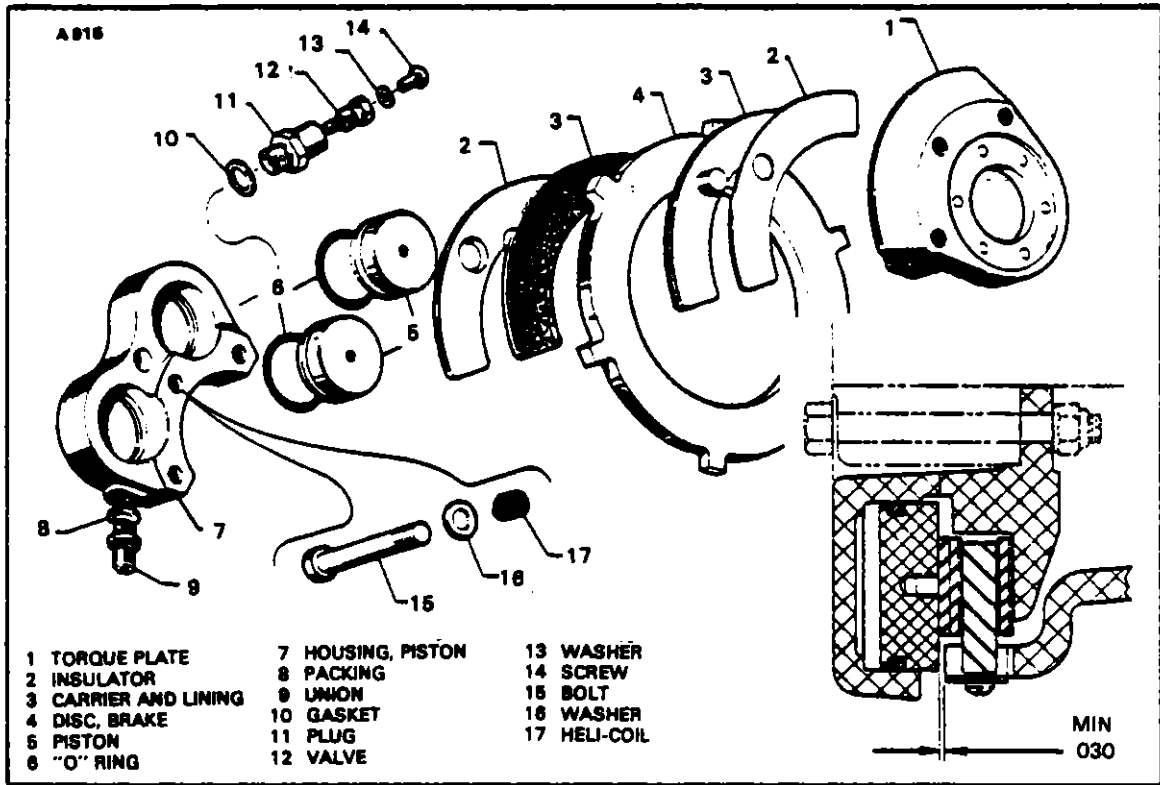

FIGURE 6-30. BRAKE ASSEMBLY (GOODRICH) PA-24-400
**6-84 Removal And Disassembly Of Wheel Brake Assembly. (Goodrich) PA-24-400 (Refer to Figure 6-30 )**
- a. To remove the brake assembly first disconnect the brake line from the cylinder housing (7) at the line fitting
- b. Remove the three bolts (15) joining the cylinder housing (7) to the torque plate (1) and remove the brake disc (4) and cylinder housing.
- c. Remove the lining carrier (3) and insulator (2) from the torque plate and cylinder housing
- d. The pistons (5) may be removed by injecting low air pressure in the cylinder fluid inlet and forcing the pistons from the housing.
6-86. Assembly And Installation Of Wheel Brake Assembly. (Goodrich)PA-24-400 (Refer to Figure 6-30.)